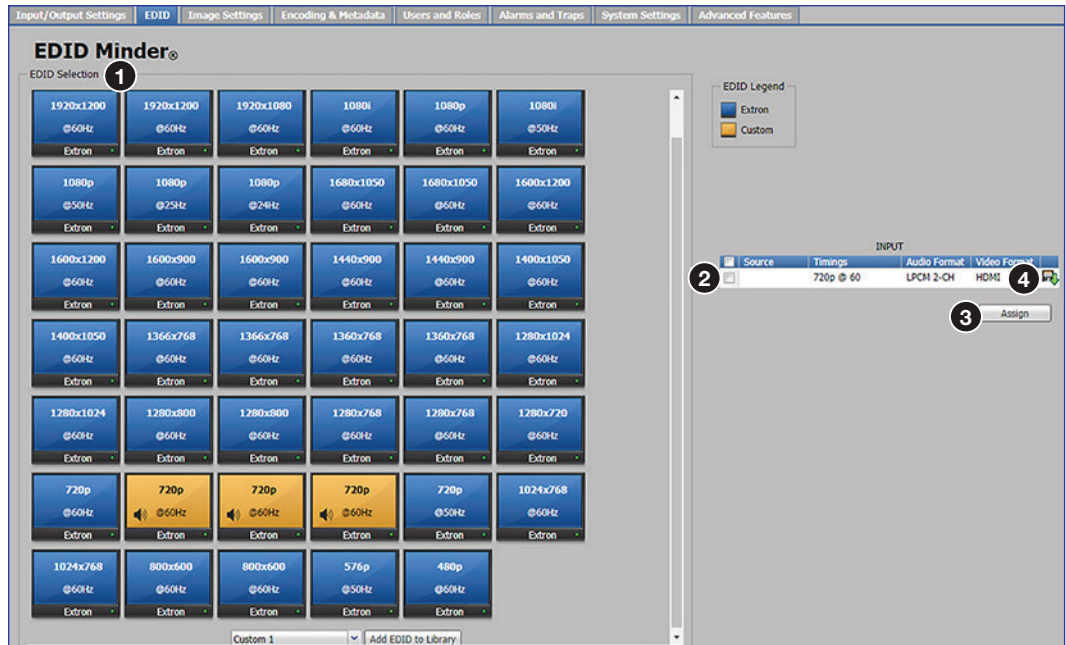

Figure 39. EDID Minder Page
The EDID Minder page opens (see **figure 39** on page 41).
1. Open the EDID Minder page (see figure 39).
2. Select the resolution and refresh rate from the **EDID Selection** panel (1).
3. Click the **Source** radio button (2) in the **INPUT** panel.
4. Click the **Assign** button (3) in the **INPUT** panel.
5. To save the selected EDID to a PC, click the download icon (4) in the **INPUT** panel.